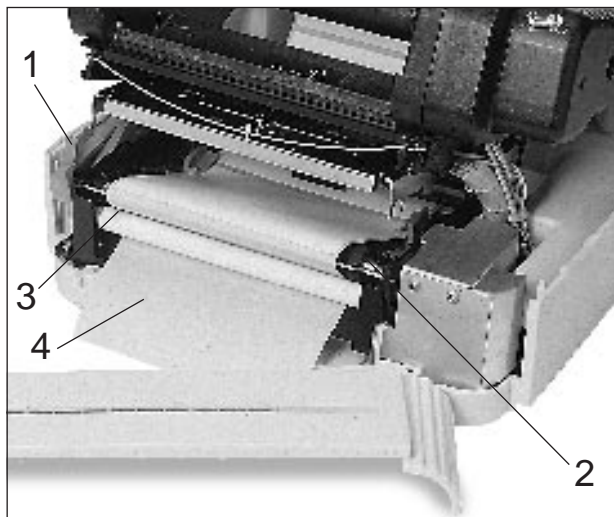

Fig. 7-1 Setting Up Printer for Self-Peeling Function
2. Feed the backing of the label stock between the front rubber roller and the Self-peeling roller just in front of it, as shown in Fig. 7-1.